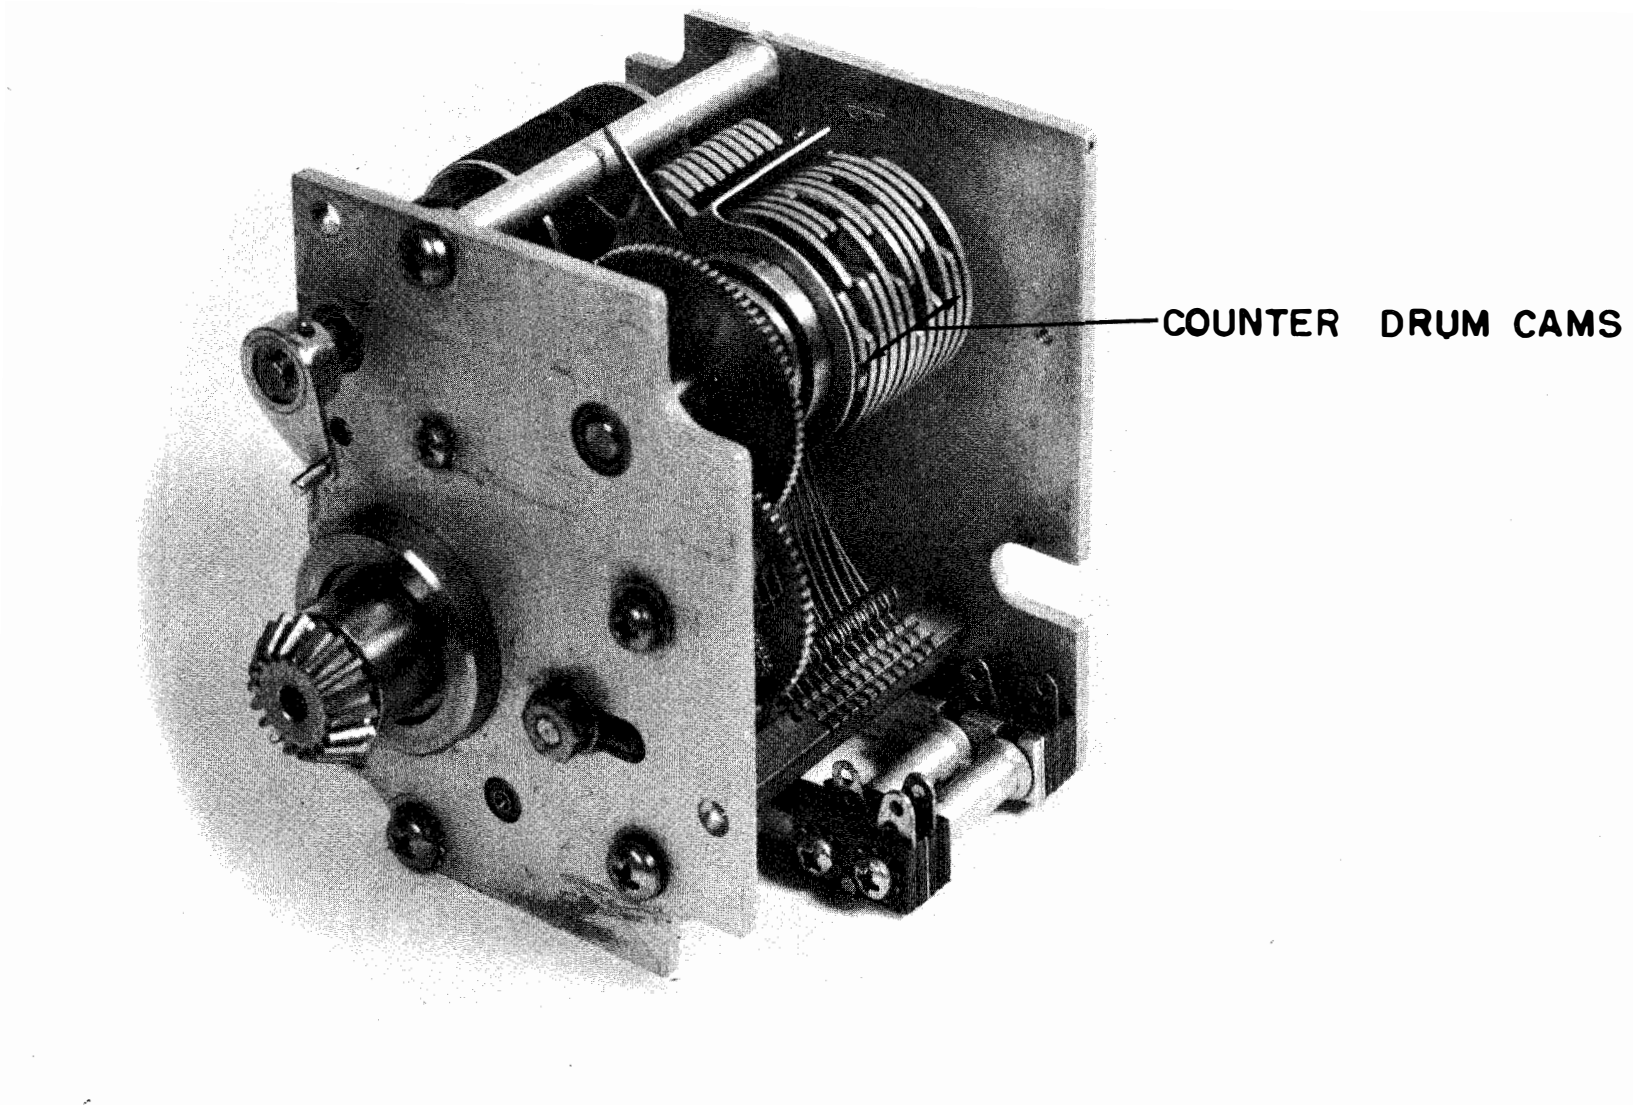

Figure 5-19. Positions of Counter Drum Cams In 0735 Before Alignment
(1) If the Drive Mechanisms, 0734 and 0735, function correctly on two or more channels and do not function on some other channels and it has been visually determined that stripped or worn gears, bent or broken pawls and springs, or a slipping clutch are not at fault, the unit may be malaligned and the procedure below must be followed. Figure 5-19 shows a Drive Mechanism before alignment.
- Step 2. Turn channel selector drum (as indicated in figure 5-19) counterclockwise until the tail of the pawl second from the main dial falls into the cam slot on the drum cams. All pawl reference will be in terms of engagement of the pawl with the channel selector drum. Turn drum clockwise as far as the pawl tail permits.